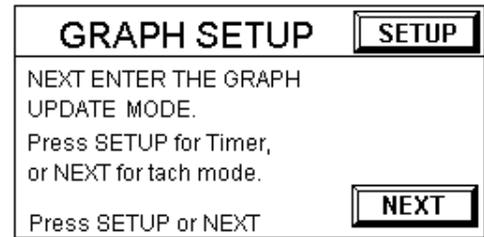

Figure ZD.2-46: Enter Graph Update Screen
- 2) Press “NEXT” three times to skip to the Set update time factor function. The *Graph Setup Screen* changes to describe the setting of the update time factor {Figure ZD.2-46}.